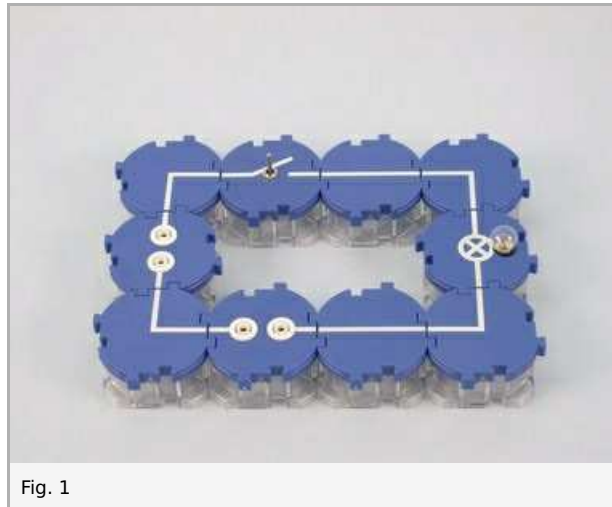

Fig. 1
- Set up the circuit as shown in Fig. 1.